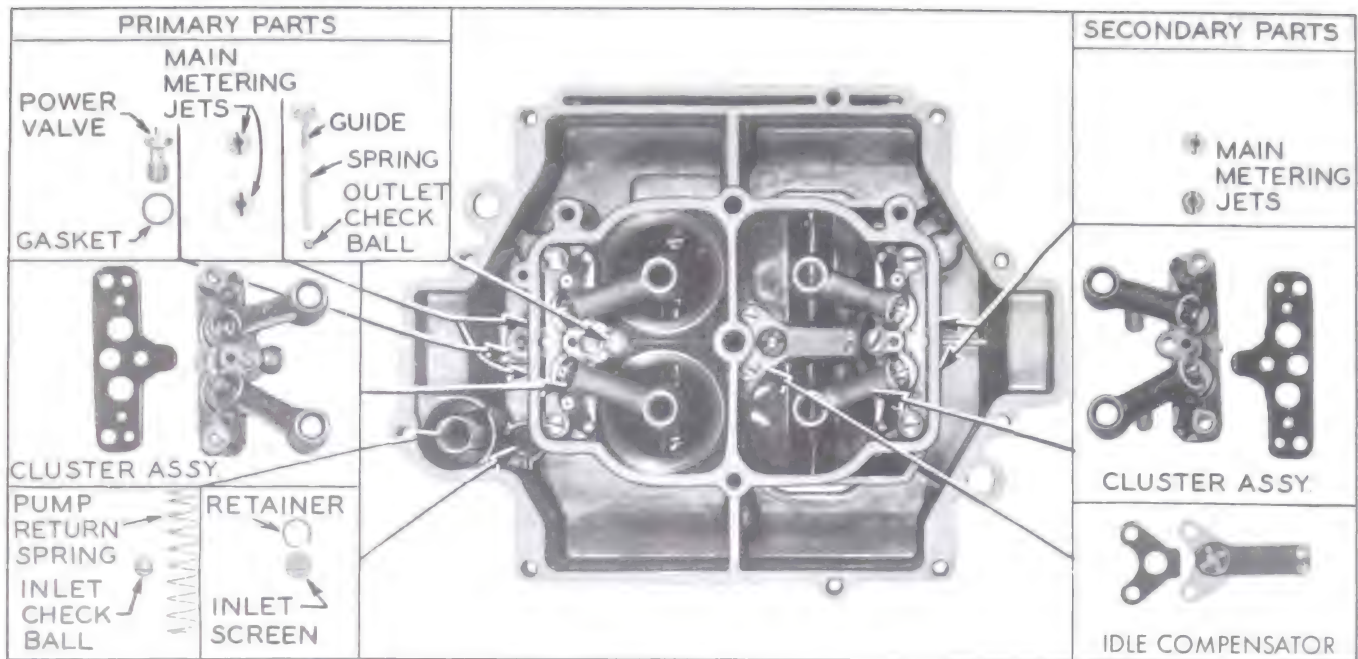

Figure 3-52—Main Body Parts
14. Remove both main metering jets from pump side of main body. See Figure 3-52. Remove power valve and gasket.